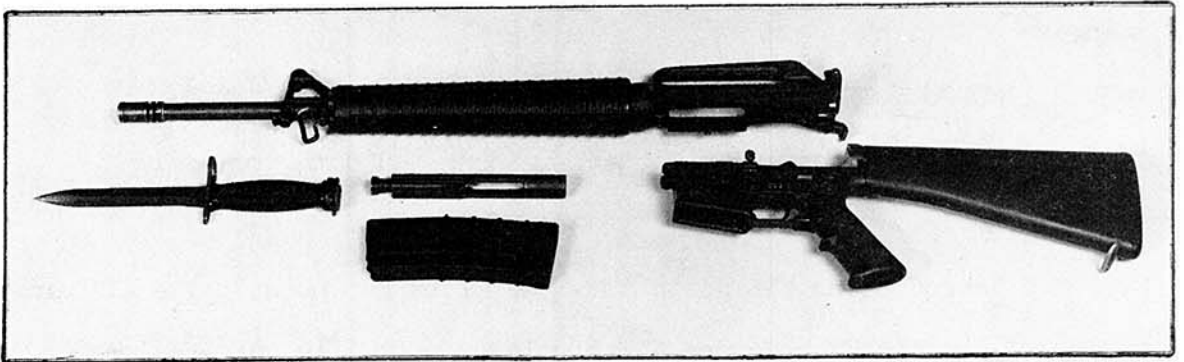

Figure 2-1 Layout for Instruction
- c. Layout one weapon for instruction, see Figure 2-1.
10. Upper Receiver Group. Explain that the upper receiver group comprises the upper receiver, barrel and bolt, see Figure 2-1.
12. Lower Receiver Group. Explain that the lower receiver group comprises the lower receiver and butt, see Figure 2-1.